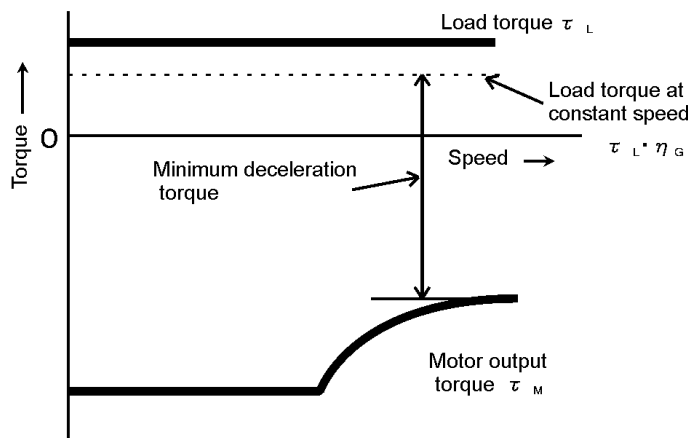

Figure 10-3 Example Study of Minimum Deceleration Torque (1)
- 2) Calculate minimum deceleration torque. (See Figure 10-3)